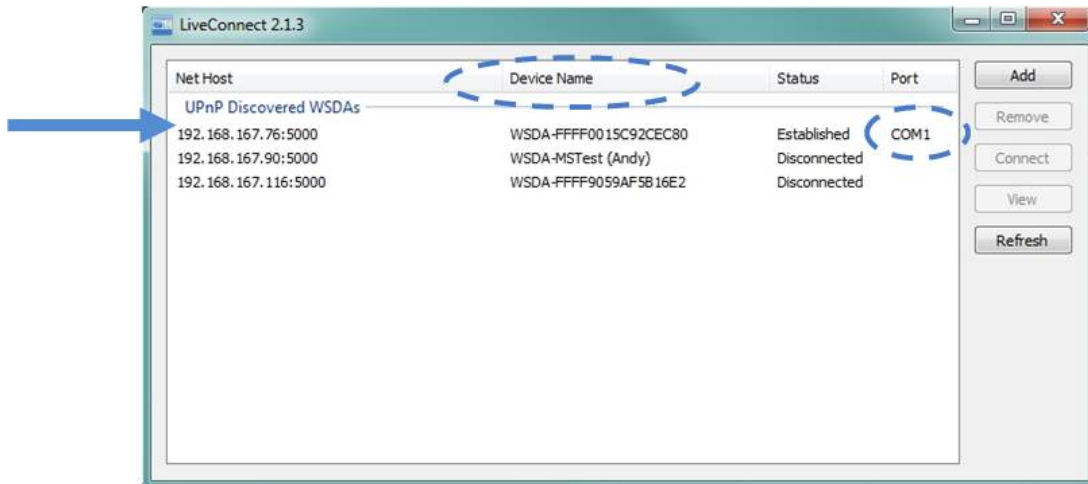

Figure 20 - Live Connect™ Interface
2. Open Live Connect™. The gateway will be detected automatically but depending on the network, it may take 2 to 3 minutes. Once detected, the gateway will appear on the list of discovered devices and can be identified by its serial number in the Device Name column (Figure 20 - Live Connect™ Interface).